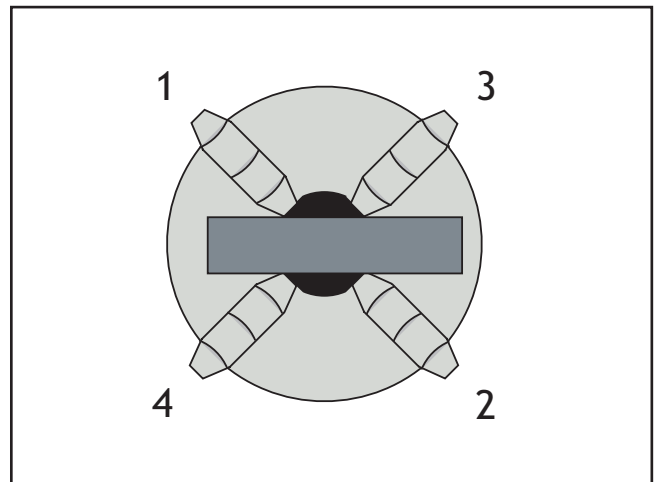

Figure 28. 4-jaw tightening sequence.
- With assistance to hold the workpiece in place, tighten each jaw in small increments. After adjusting the first jaw, continue tightening in opposing sequence, as shown in **Figure 28**, until the workpiece is firmly secure in the desired position.